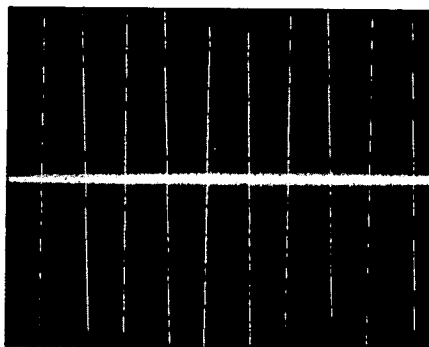

Figure 5-8. Waveform at A13TP3.
- c. Adjust "OFS-3" potentiometer A13R66 until dc level of displayed waveform is  $0\text{mV} \pm 10\text{mV}$ . Refer to Figure 5-8 which shows well adjusted waveform.